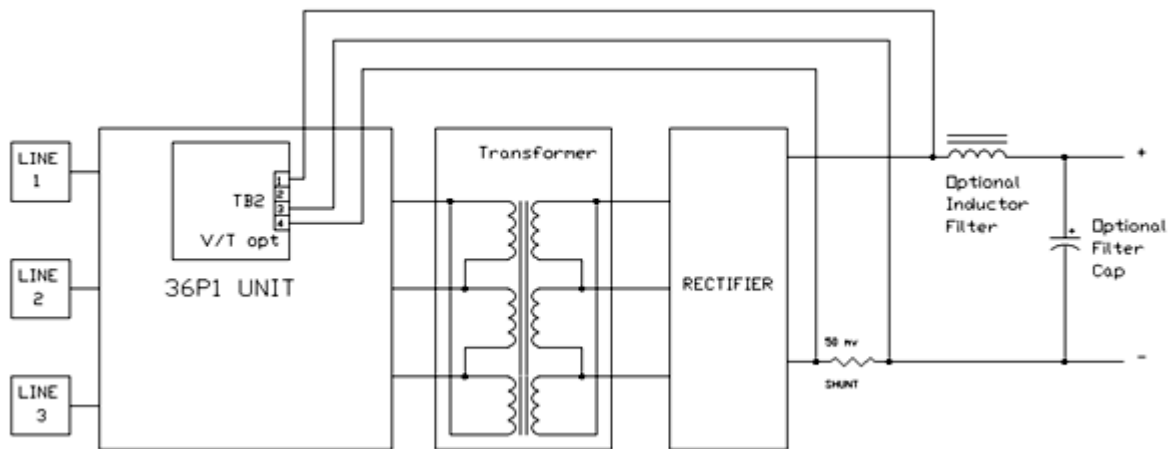

Fig 6
2. The Current feedback signal is from a 50 millivolt shunt that is located in the negative leg of the DC output circuit. For proper performance, the shunt must be connected directly to the negative output of the rectifier before any filter components. (Fig. 6 shows typical connections.) The shunt signals are then brought back to TB2 pins 3 & 4 on the V/T option card with pin 3 being the positive side of the shunt and pin 4 being the negative.
3. A DC Voltage feedback signal is also required from the positive output of the rectifier. A single lead wire that is appropriately rated and fused is connected to the rectifier's positive output prior to any filtering components and is brought back to TB2 pin 1 on the V/T option card as the DC voltage feedback signal. (Fig. 6 shows typical connections.)